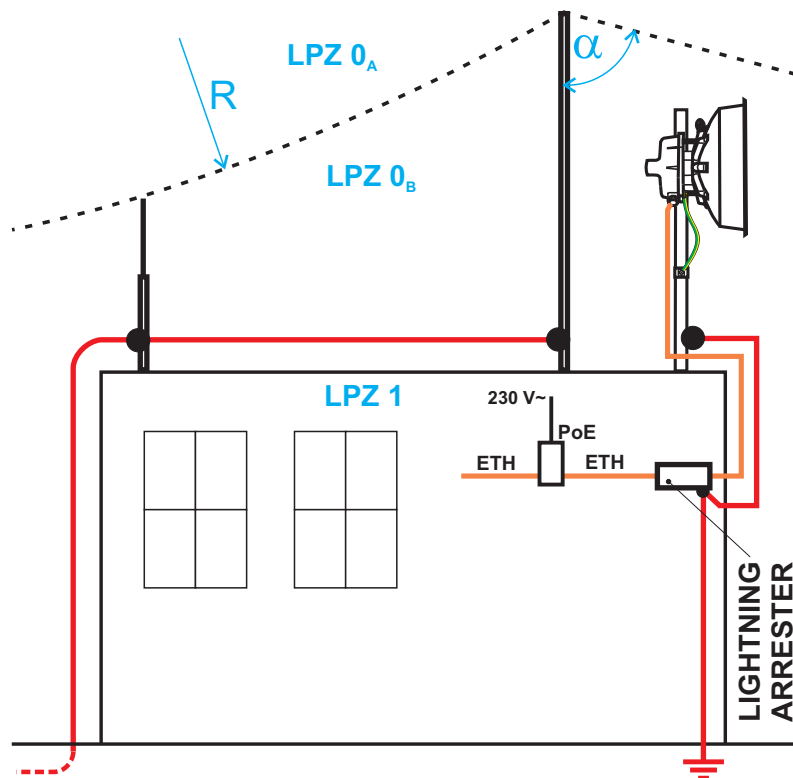

Fig. 5.61: Grounding installation 1
2. When meeting conditions for ensuring electrical insulation (distance from the lightning conductor) in accordance with article 6.3, it is not recommended to ground the load-bearing structure and antenna to the external air termination network. Ground should be connected to the protective system of the internal LV wiring or grounded internal structures using a CYA 6 mm² bonding conductor, see Fig. 5.61, "Grounding installation 1"